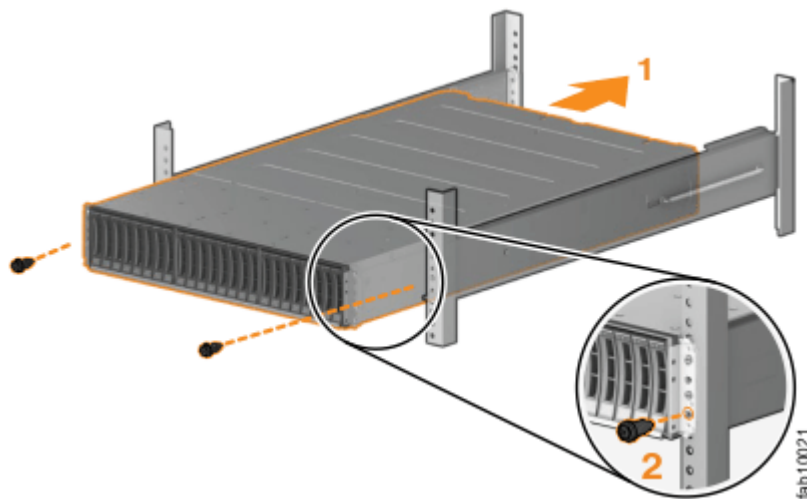

Figure 29. Inserting the enclosure
3. Slide the enclosure into the rack along the rails until the enclosure is fully inserted. (See Figure 29 on page 68.)